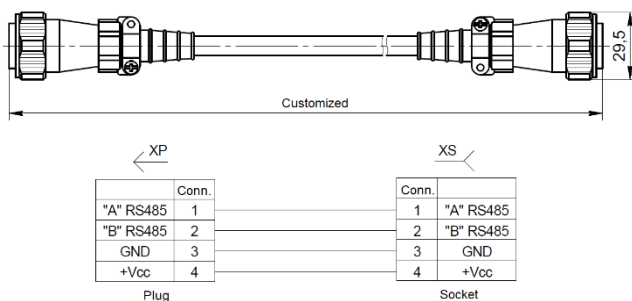

Figure 6. WY20/WY20 universal commutation cable
4. Mount the PS-150(RK) transducer;
5. Connect the commutation cable (see Fig. 6) with the PS-150 (RK);
The WY20/WY20 universal commutation cable from the supplied package (see Fig. 6) is used for connection of the Signal Transducer PS-150(RK) to the MU-150 / MU-150E / MK-140 unit of the DEL-150 System.